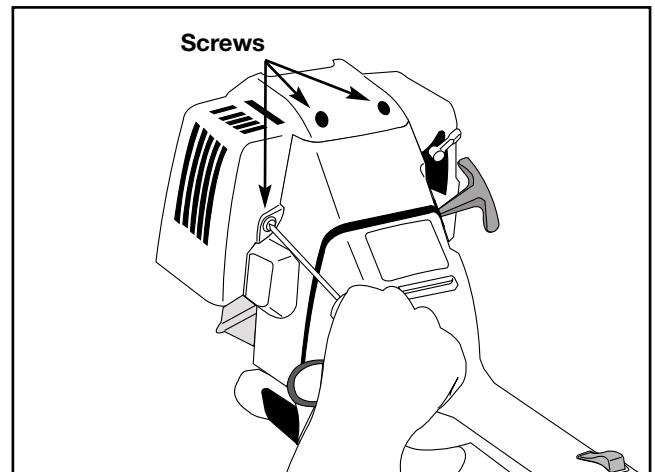

Fig. 49
- Recheck the clearance with a *flat feeler gauge* and readjust as necessary (Fig. 49).